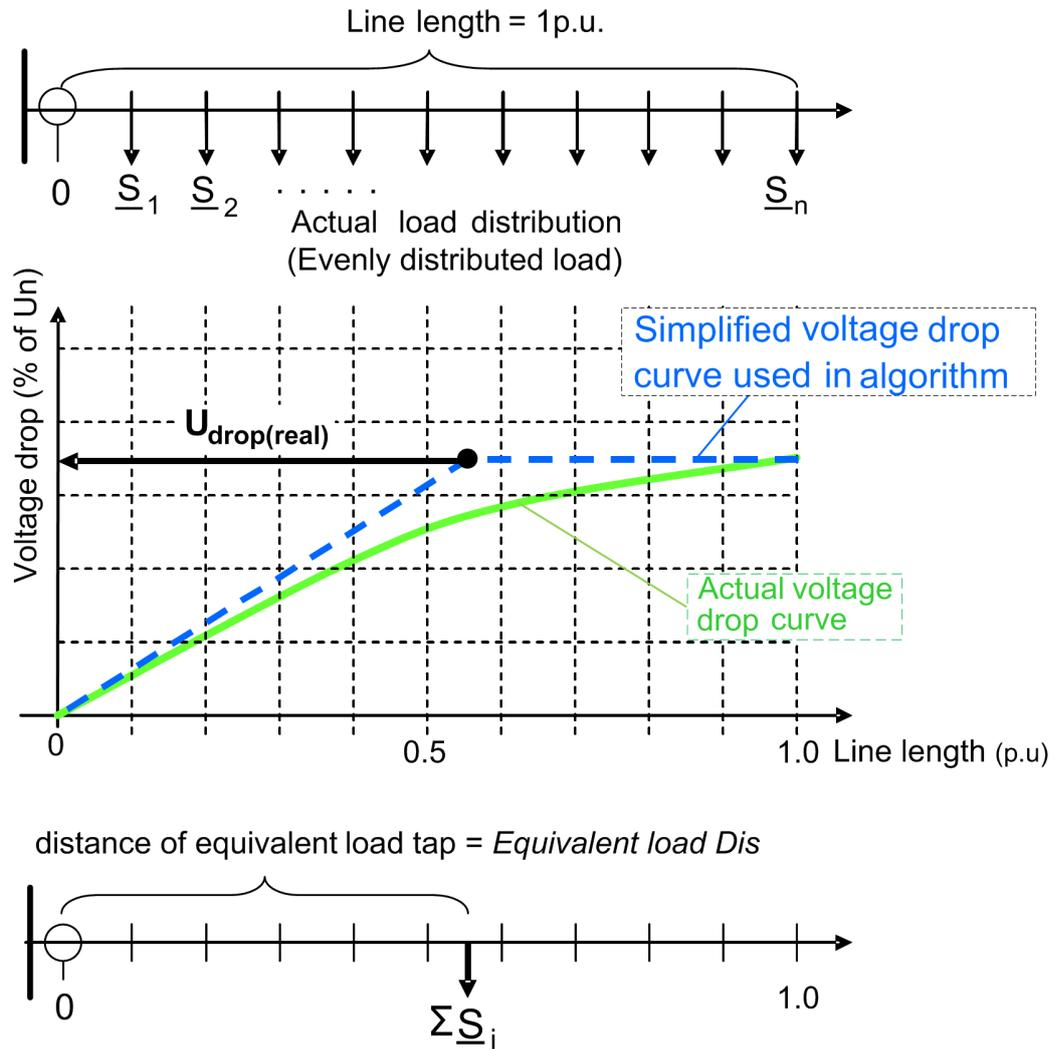

Figure 451: Description of the equivalent load distance
The “Load modelling” algorithm requires the *Equivalent load Dis* setting, that is, an equivalent load distance, as an additional parameter. The derivation and meaning of this parameter is illustrated in Figure 451, where the load is assumed to be evenly distributed along the feeder, resulting in the actual voltage drop curve as seen in the middle part of Figure 451.
- $U_{d(\text{tap},d=1)}$ The fictional voltage drop, if the entire load would be tapped at the end ($d=1$) of the feeder (not drawn in Figure 451). The calculation of this value requires data from the DMS system.